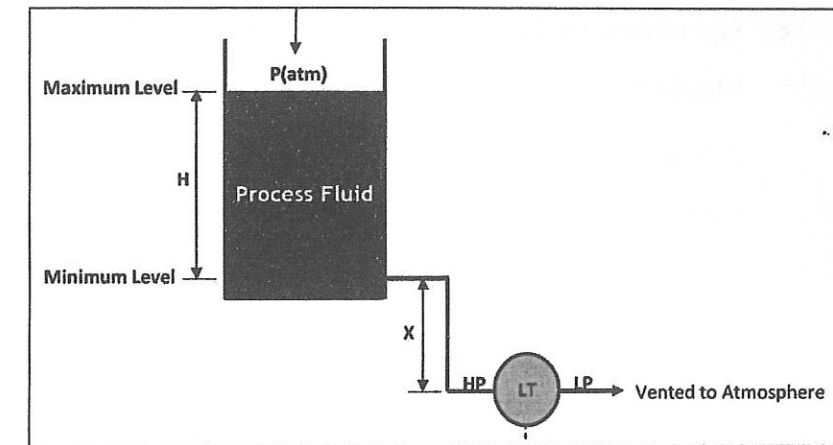

Figure A2 (c) / Rajah A2 (c)
- c. Based on Figure A2 (c), there are two terms commonly used in the calibration of the level measurement with differential pressure transmitter, which are zero adjustment and span adjustment. By implementing the calibration of zero adjustment and span adjustment, generalize about this situation.